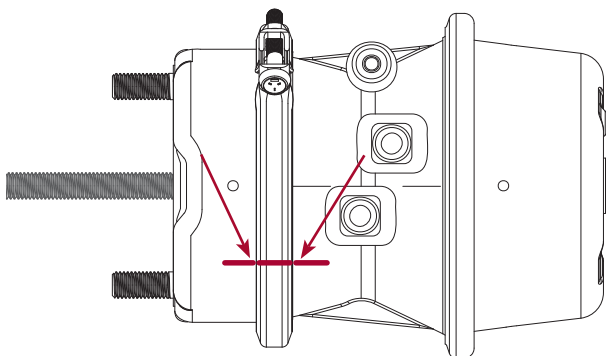

Figure 103: Mark Front Housing, Clamp and Centre Body Position
8. Mark orientation of the front housing and clamp relative to the centre body, to enable correct alignment of the air ports on reassembly. Refer Figure 103.